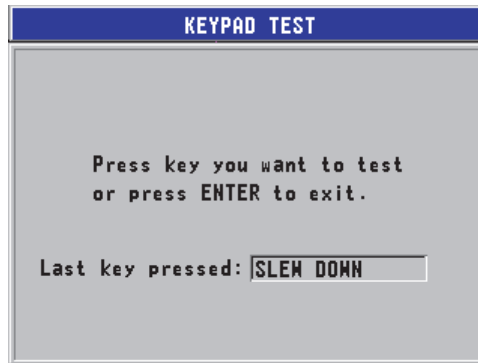

Figure 12-2 The KEYPAD TEST screen
4. When **KEYPAD TEST** is selected, in the **KEYPAD TEST** screen (see Figure 12-2 on page 210), perform the following steps: